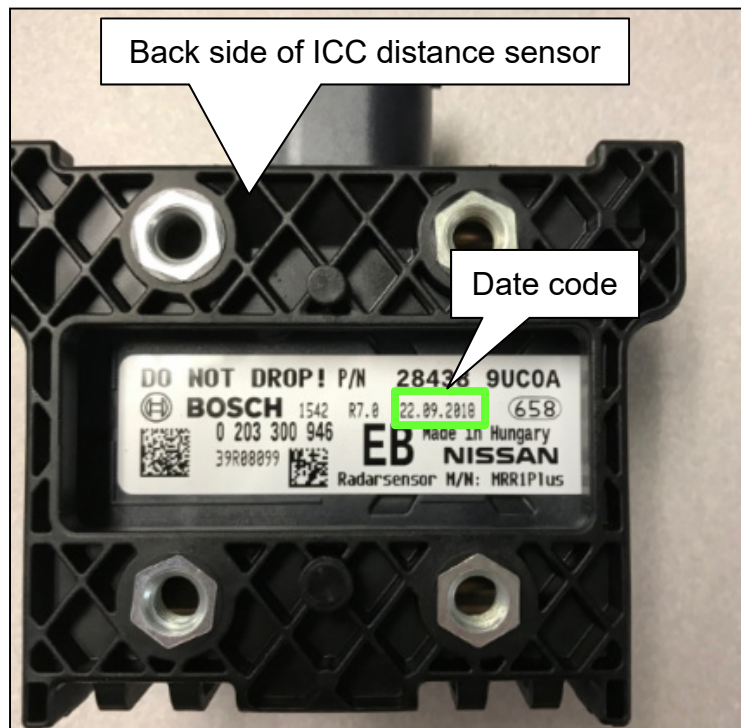

Figure 2
6. Locate and then write down the ICC distance sensor manufacturing date code (see Figure 2).